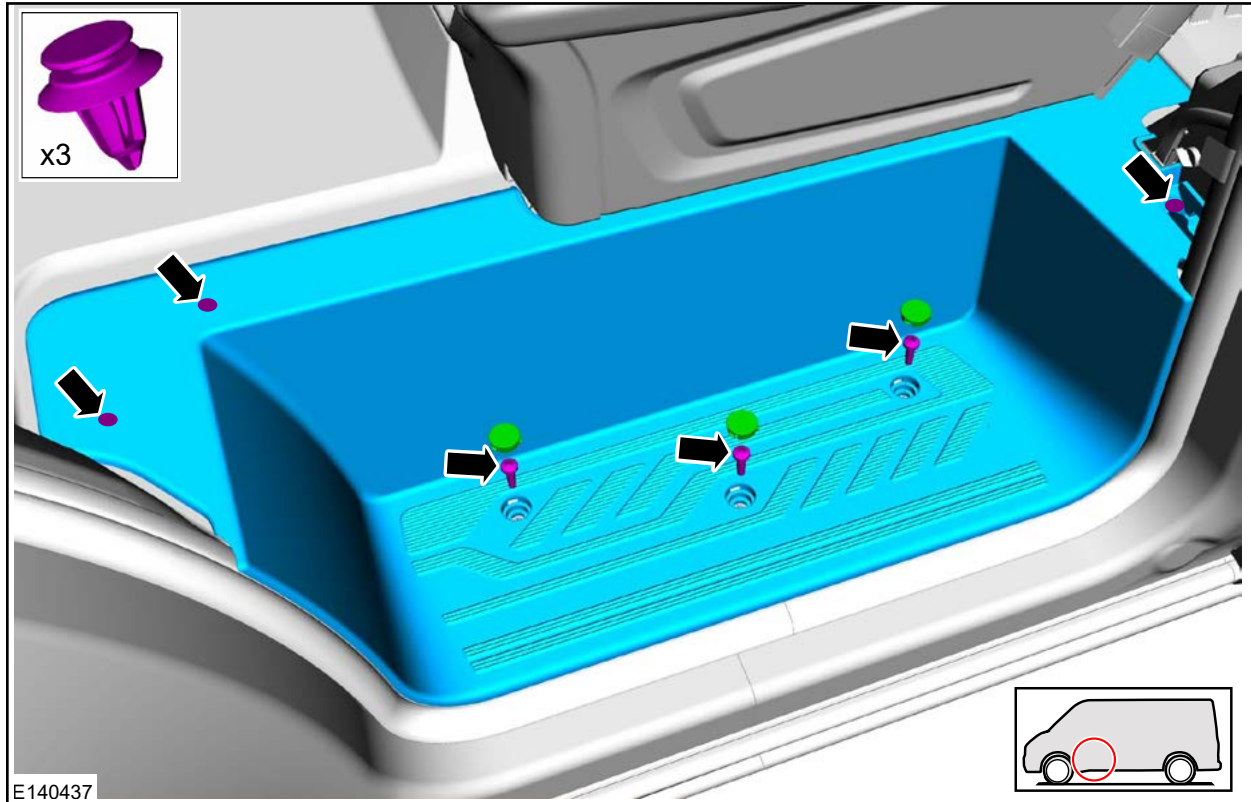

FIGURE 3
3. Remove the footwell trim panel by releasing the three clips, and the three footwell trim panel screw covers and screws. See Figure 3.
- Install the footwell trim panel by installing the three footwell trim panel screws and screw covers. See Figure 3.